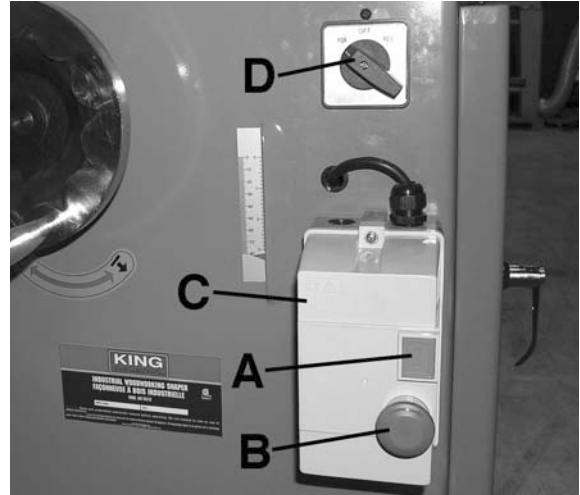

FIGURE 20
To turn the shaper on, press the ON button (A) Fig.20 on the magnetic switch (C), to turn the shaper off, press the OFF button (B) on the magnetic switch (C).